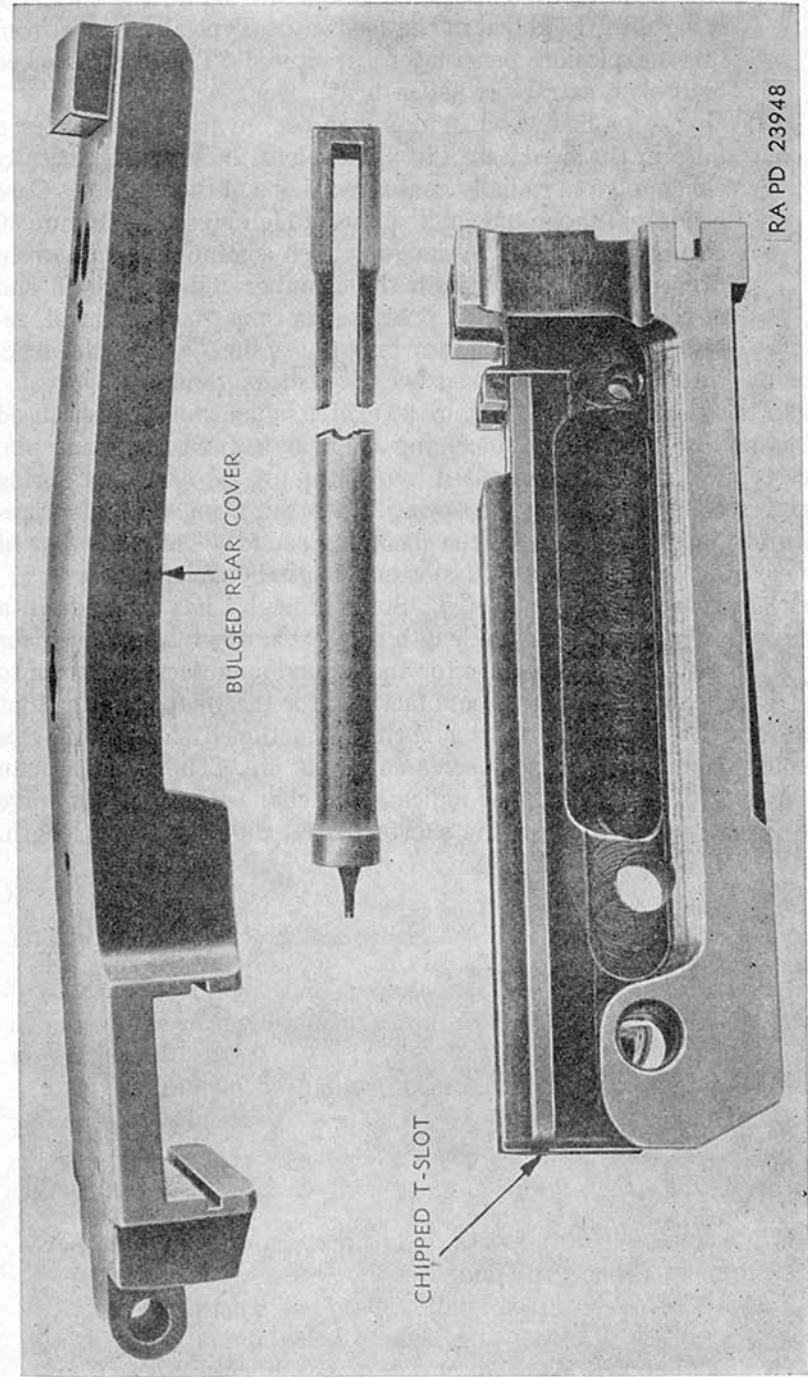

Figure 31. Damage from fractured firing pin causing premature ignition, cal. .30 machine gun.
d. Fractured Firing Pin. Figure 31 exhibits damage to a gun caused by premature firing of the incoming round by a fractured firing pin. This typical accident was caused by fracture of the firing pin during counterrecoil. The firing pin spring drove the firing pin point prematurely into the primer of the incoming round. The explosion of the cartridge chipped the "T" slot and bent the cover upward.